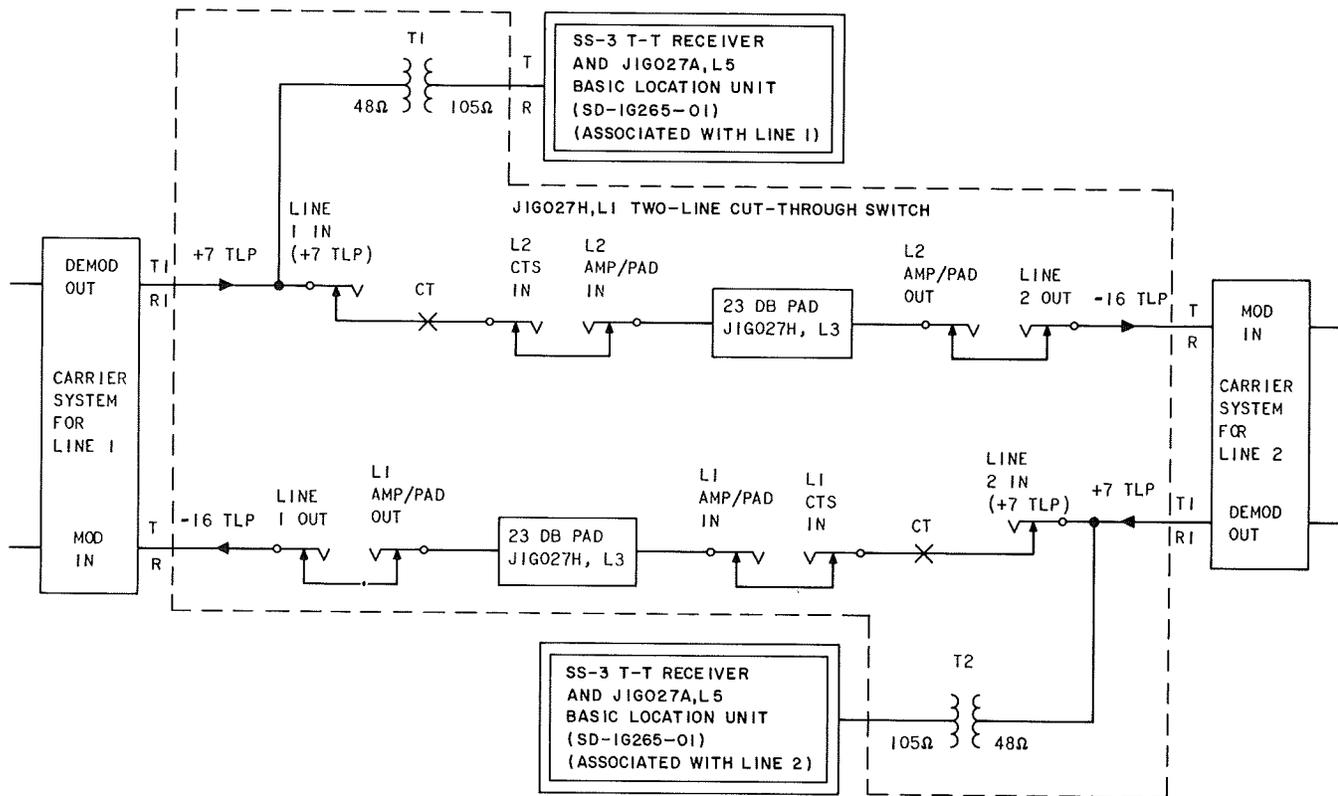

Fig. 3—Two-Line Cut-Through Switch—Without Terminating and Station Equipment
**2.09** When neither of the two lines has an associated terminating and station unit, adjust the equipment as follows (Fig. 3):